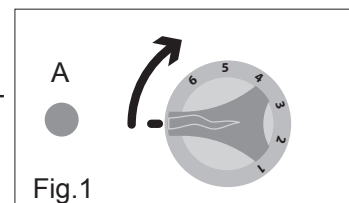

Fig.1
1. Turn the knob to set the correct temperature (Fig.1).
2. Green indicator switch-on and blinks regularly (Fig.1 A).
4. Green indicator always ON, means working phase (Fig. 1 A).
5. Turn the knob in "Zero" position (Fig. 1 B) to switch-off the heating generator .